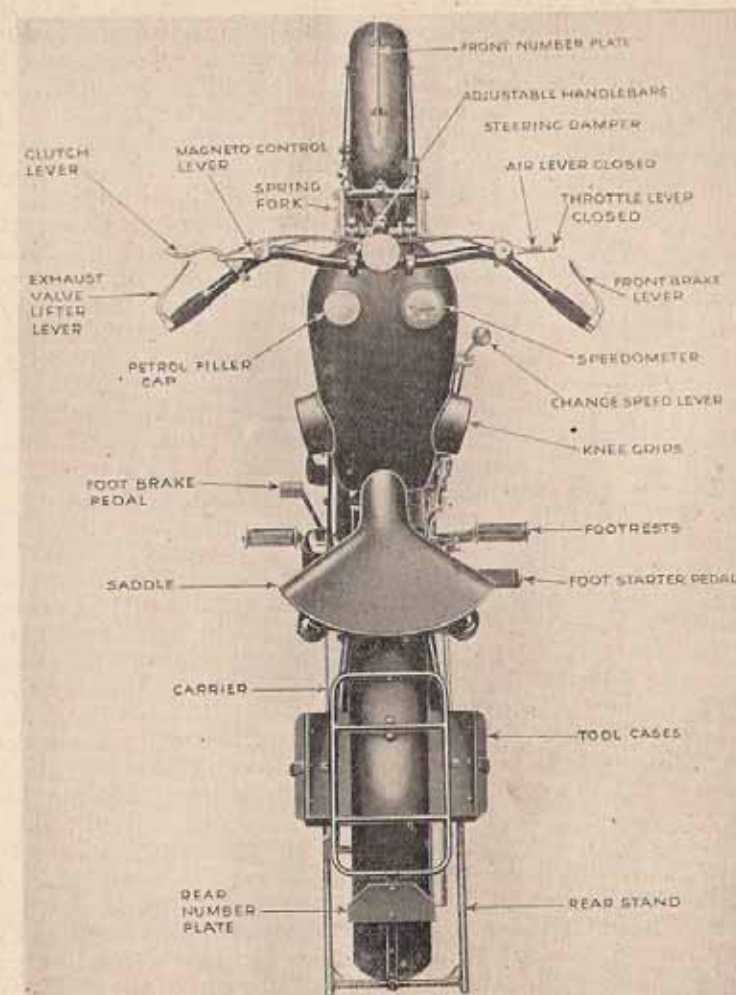

FIG. 30. PLAN VIEW OF 3-49 A.J.S., SHOWING THE CONTROLS
from the driver's hands to the interior of the engine. If the reader has ridden a three-speed pedal cycle, he will understand the purposes of the gear-box. It is to be hoped, anyway, that he has ridden a "push-bike"; for he will then have no difficulty in balancing the motor-cycle straight away. Moreover, he will have acquired some road sense which only experience can give. A sketch of the A.J.S. controls is shown in Fig. 30. The engine controls are all mounted on the handlebars and comprise four levers: (1) throttle, (2) air lever, (3) lever for advancing and retarding spark, (4) exhaust valve lifter. The two carburettor